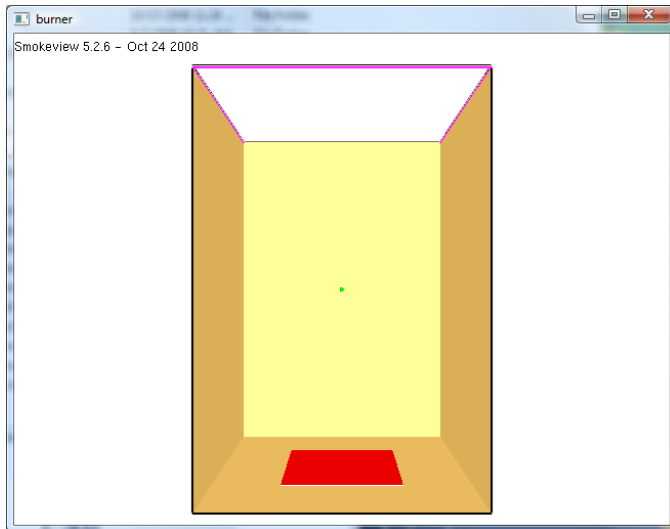

Figure 2.8. The initial Smokeview display
3. When the simulation is complete, Smokeview will start and display a 3D still image of the model, Figure 2.8.